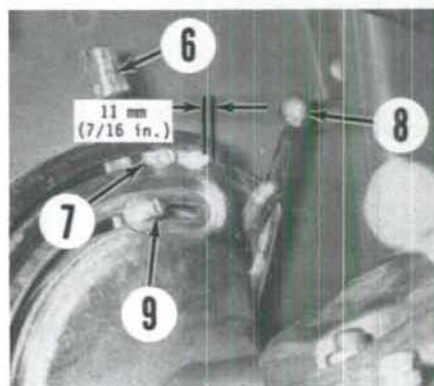

Fig. 177—View of controls for models without pressure control. Refer to text for tests and adjustments.
187. Before beginning system checks, be sure oil level is at full mark on dipstick (5—Fig. 176), and test system only after oil has reached operating temperature of approximately 50°C (120°F). Connect a 35000 kPa (5000 psi) pressure gage (1) at test port (3) in lift cover. Move the response control lever (4) to "FAST" and the inner quadrant lever (6) to "TRANSPORT." If system is pressure control type, make sure that transport stop (7) is fully rearward directly beneath "PRESSURE" range of inner quadrant. If system is nonpressure type, check that center of rear bolt holding transport stop (7—Fig. 177) is 11 mm (7/16 inch) from rear of quadrant stop. On all models, check to be sure lever friction springs are compressed to 20.6 mm (13/16 inch). This amount of compression should permit levers to slide freely, but should hold position when released.
If nonpressure control style, move inner quadrant lever (6—Fig. 177) fully "UP" in quadrant past the transport